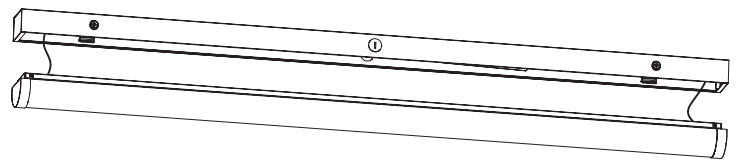

FIG. 11
⑤ Push the lens assembly toward the other half of the fixture until it clicks into place. (Figure 11)